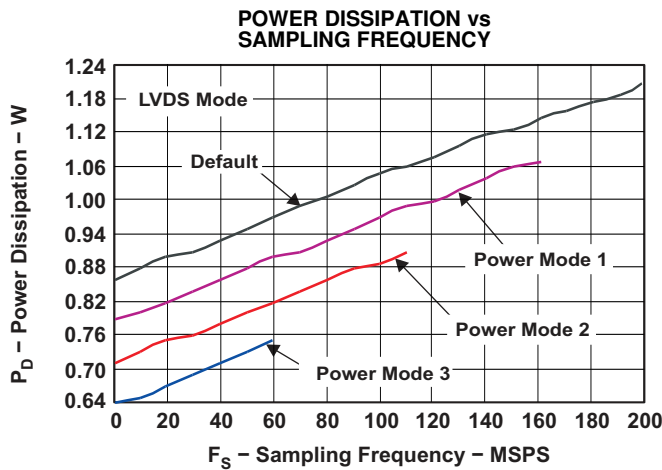

Figure 29.
ADS5517 has a power scaling mode in which the device can be operated at reduced power levels at lower sampling frequencies with no difference in performance. (See Figure 29)(1) There are four power scaling modes for different sampling clock frequency ranges, using the serial interface register bits <SCALING> (Table 16). Only the AVDD power is scaled, leaving the DRVDD power unchanged.